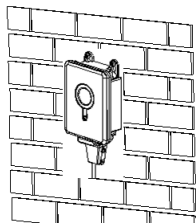

Fig2-6 Install Solar Bee
5) Hang the Solar Bee on the screws fixed to the wall. Tighten the screw with a screwdriver slightly. Fig 2-6 as below